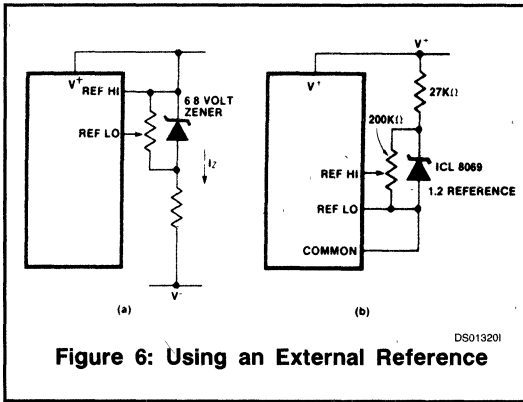

Figure 6: Using an External Reference
The limitations of the on-chip reference should also be recognized, however. The reference temperature coefficient (TC) can cause some degradation in performance. Temperature changes of 2 to 8°C, typical for instruments, can give a scale factor error of a count or more. Also the common voltage will have a poor voltage coefficient when the total supply voltage is less than that which will cause the zener to regulate (< 7V). These problems are eliminated if an external reference is used, as shown in Figure 6.